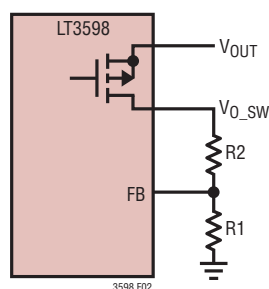

Figure 2. Overvoltage Protection Voltage Feedback Connections
**FB (Pin 11/Pin 14):** Feedback Pin for Overvoltage Protection. Reference voltage is 1.230V. Connect the resistive divider tap here. Minimize trace area at FB. Set  $V_{OUT}$  according to  $V_{OUT} = 1.230(1 + R2/R1)$  when overvoltage protection occurs (see Figure 2).
The LT3598 uses the FB pin to provide regulated overvoltage protection when all LED strings are open. A resistor divider is connected between the  $V_{O\_SW}$  pin and ground (Figure 2). There is an internal PMOS switch between  $V_{OUT}$  and  $V_{O\_SW}$ , which is controlled by the PWM signal. The PMOS switch addition prevents the feedback resistor divider from draining the output capacitor during PWM off-period, allowing for a higher dimming range without falsely tripping the  $\overline{OPENLED}$  flag. It also reduces the system current in shutdown. This PMOS has about 1k resistance, so select FB resistors taking this resistance into account.
To set the maximum output voltage, select the values of R1 and R2 (see Figure 2) according to the following equation: